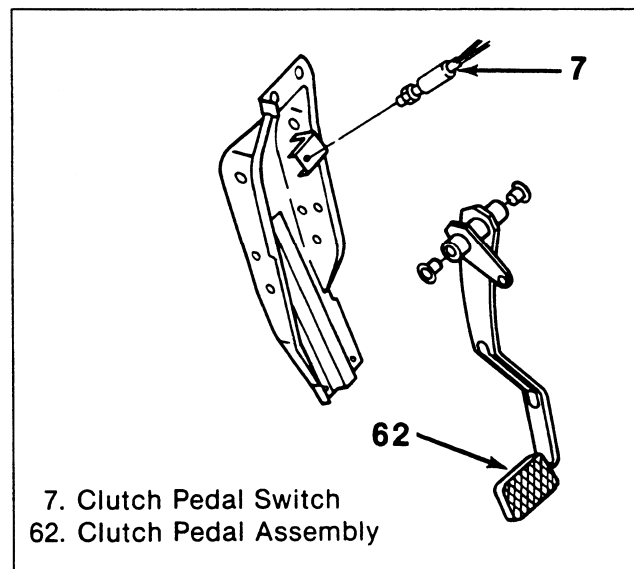

Figure 18. Clutch Pedal Switch
- The clutch switch (7) is located above the clutch pedal (62) (figure 18).
Remove or Disconnect (Figures 18 and 20)
4. Clutch switch (7) (figure 18).
Install or Connect (Figures 18 and 20)